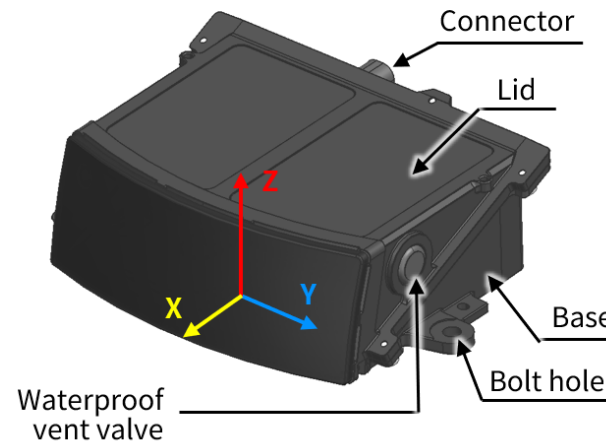

Figure 2. Coordinate system (isometric view)
The lidar's coordinate system is illustrated in Figure 2.
- To prevent loss of effective FOV, the mounting tolerances should be within ± 5 mm (position) and ± 1 deg (angularity) in the directions of X, Y, and Z axes of the vehicle coordinate system (see Figure 2. Coordinate system \(isometric view\)).